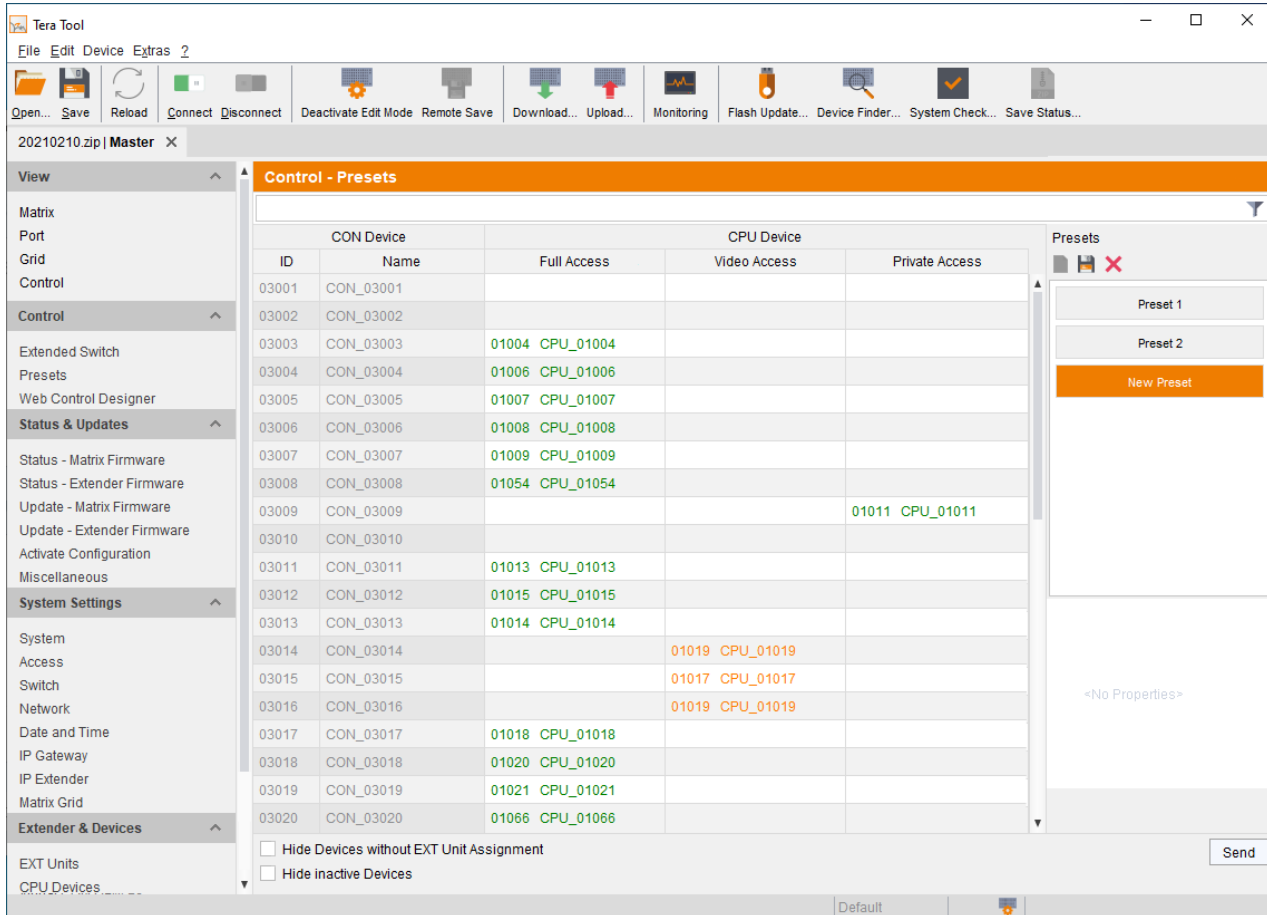

Fig. 178 Menu **Control - Presets - New switch preset opened**
3. You are asked if the existing connections should be taken over for the new switch preset. When you click **Yes**, the table contains the existing connections as shown in Fig. 178. When you click **No**, the CPU Device columns are empty.